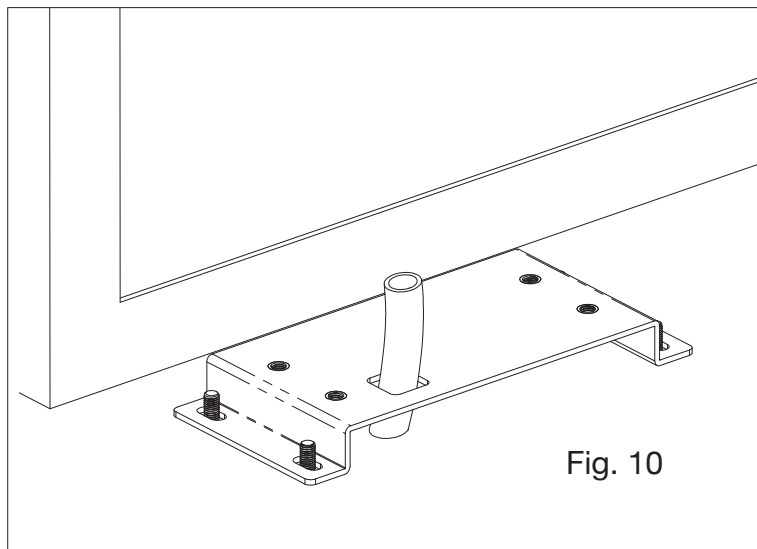

Fig. 10
b) Put the foundation plate to the floor, using adequate expansion plugs and provide one or more tubes for routing the electric cables through the plate (Fig10 and 11). Using a level, check if the plate is perfectly horizontal.